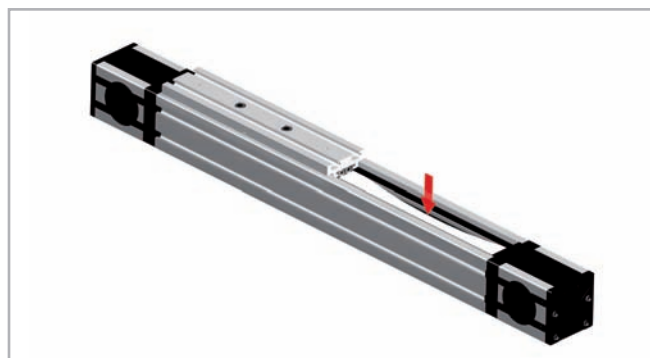

Fig. 72
- At about half the stroke press and manually move the belt in order to see one of the two rails inside the unit (see Fig. 72).